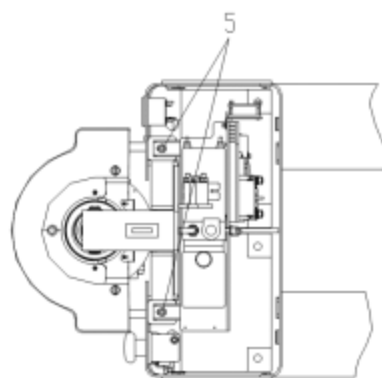

Fig.8
- (Fig 8) loose screw5, ensure that the battery is compressed by the integration seat ;